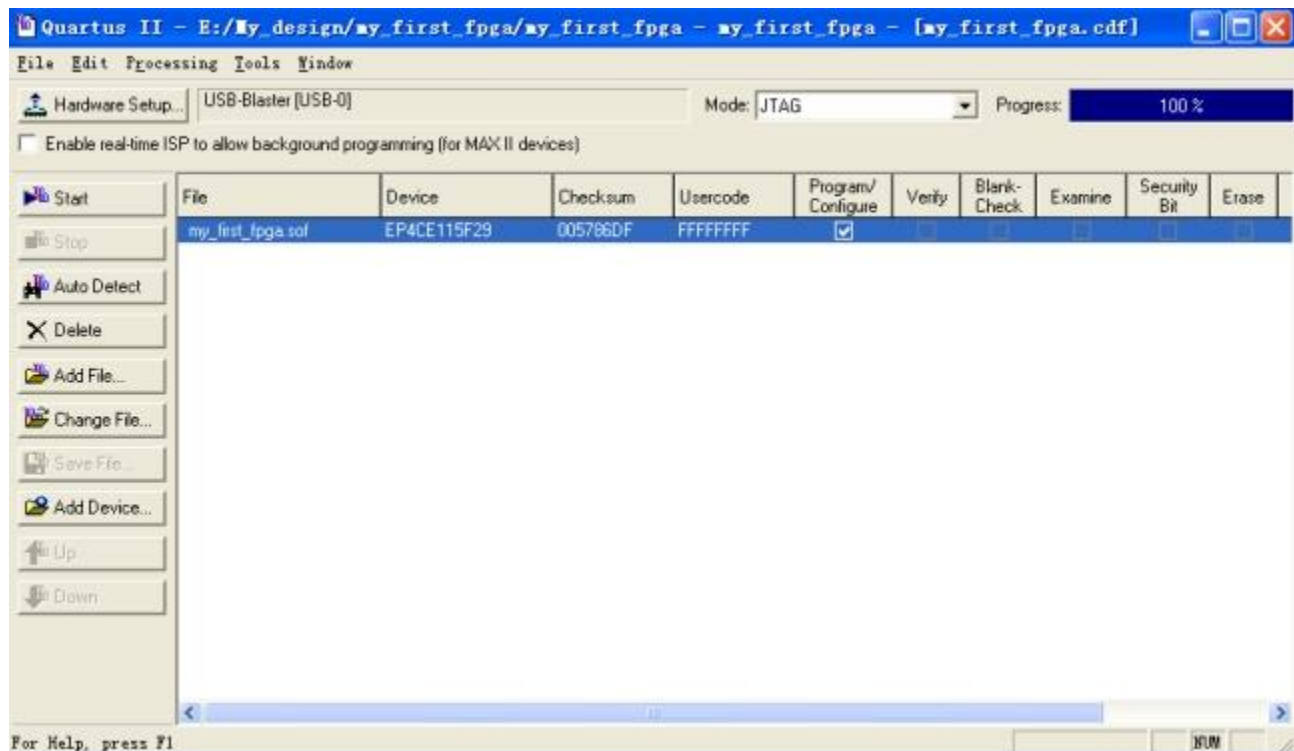

Figure 4-5 Downloading Complete
6. Select the my_first_fpga.sof file from the project directory (see **Figure 4-5**).